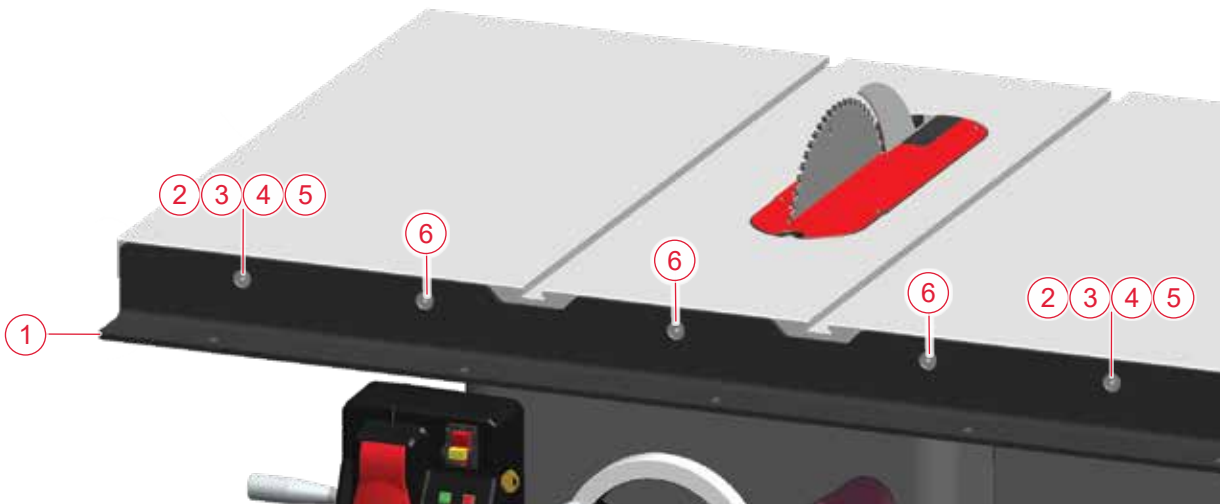

Fig. 3
Lift the right end of the rail until it's parallel with the table and thread two more M8 x 25 countersunk socket head bolts (6) into the other two threaded holes in the front of the main table (Fig. 3). Tighten the bolts using the 5 mm hex key.
Next, mount the front rail to the cast iron extension wings using two M8 x 35 countersunk socket head bolts (2) (the longer bolts), two M8 washers (3), two M8 lock washers (4) and two M8 hex nuts (5). Position the bolts through the front rail and the extension table, then install the washer, lock washer and nut (in that order) on the end of the bolt (Fig. 3). The holes in the extension wings are not threaded and are slightly larger than the bolts they receive. If necessary, use the rail to pull the wings up or down slightly until the wings are flush with the table. Use a 5 mm hex key and a 13 mm wrench to tighten the nuts, to secure the wings in place.